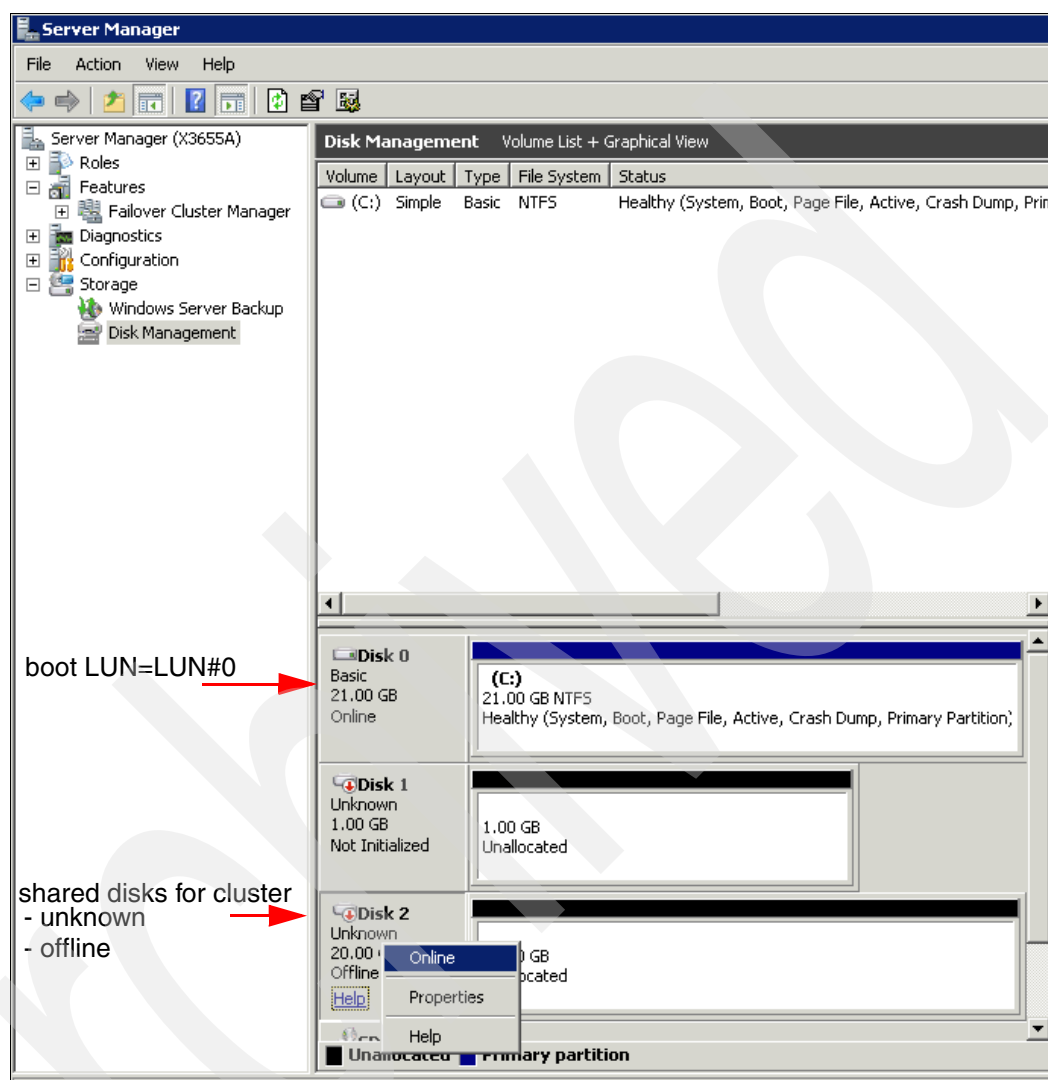

Figure 5-84 Windows - Disk Management
6. Verify your steps in the Windows Disk Management on one of your servers. Confirm that the cluster disks are visible (Figure 5-84). We then bring them online by right-clicking **Disk** and selecting **Online**.
1. Bring both disks online by right-clicking each disk and select **Online** as seen in Figure 5-84.